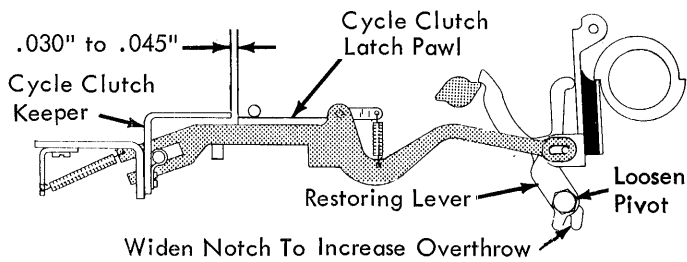

FIGURE 7. Cycle Clutch Latch Restoring Adjustment
- b. Early Style - Adjust the restoring lever so that the latch pawl overthrows the keeper by .030" to .045" (Fig. 7).